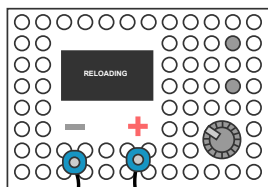

figure 5.2
activated the device will display a corresponding message on the screen and will beep (*figure 5.2*).
- At low voltage values in the overload mode, protection can be activated to prevent the device from failing. The protection is activated in response to overheating of the power elements of the device. At the same time, the lower part of the PSU can be heated to 50-60 °C. When the protection is activated, the device will display a corresponding message on the screen and will beep (*figure 5.2*).